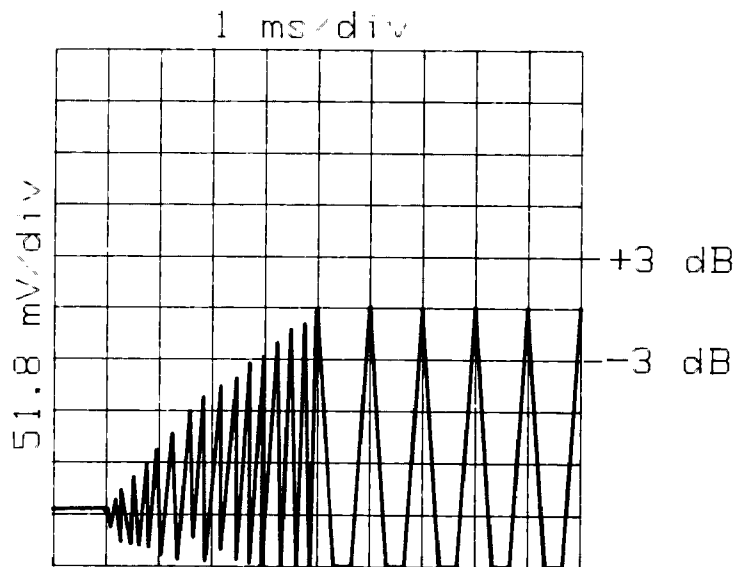

Figure 4-16. Amplitude Recovery Measurement Waveform
27. Press the digitizer (STORE M1) key on the oscilloscope and step the Signal Generator to the stop frequency with the FREQ INCREMENT key. The oscilloscope should digitize the switching waveform as the frequency changes. The waveform should now look like that shown in Figure 4-16